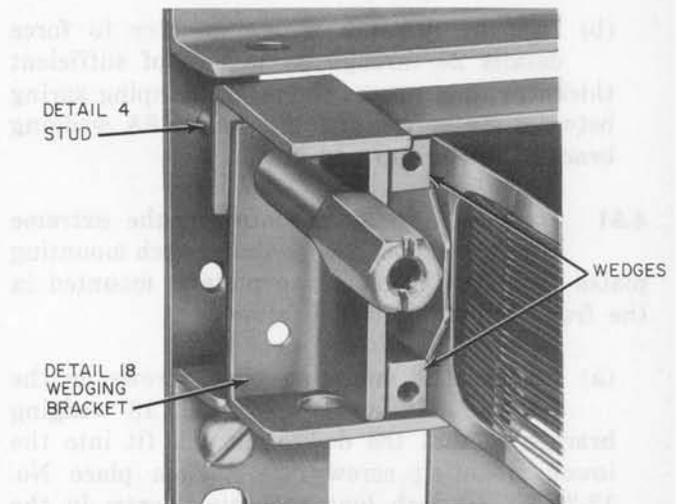

Fig. 20—Detail 18 Wedging Support on Detail 4 Stud
- (a) Place detail 18 wedging bracket on detail 4 stud, and then fasten detail 2 spacer nut as shown in Fig. 20.
- (b) Use the detail 5 wedge inserter to force details 20 through 33 wedges of sufficient thickness to compress the relay clamping spring between the spring and the detail 18 wedging bracket on the top and bottom. (See Fig. 20).